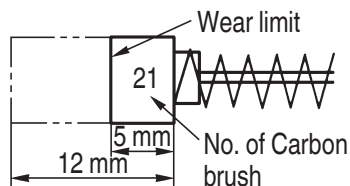

Fig. 4
2. **Inspecting the carbon brushes (Fig. 4)**